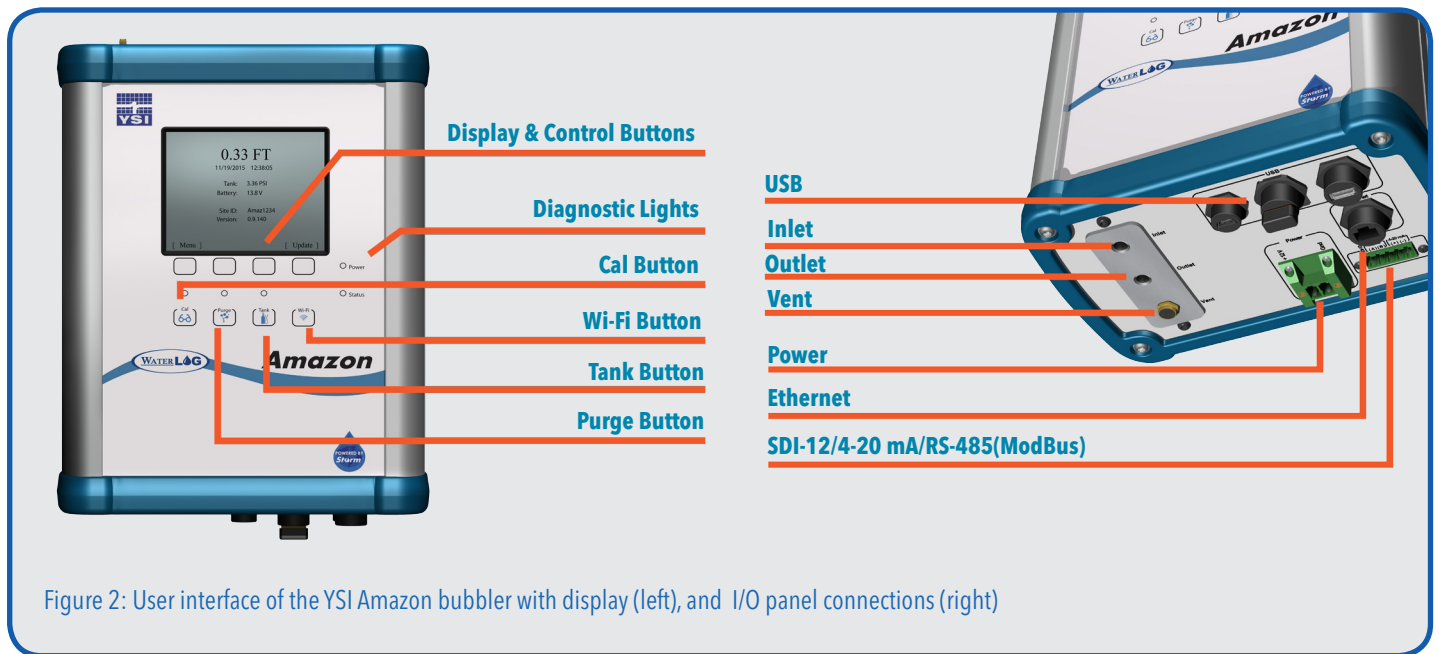

Figure 2: User interface of the YSI Amazon bubbler with display (left), and I/O panel connections (right)
- Optional "paper-white" display for ease of programming (*Figure 2*).
- Internal data logging, with data recovery via a USB flash drive or a PC (*Figure 2*).